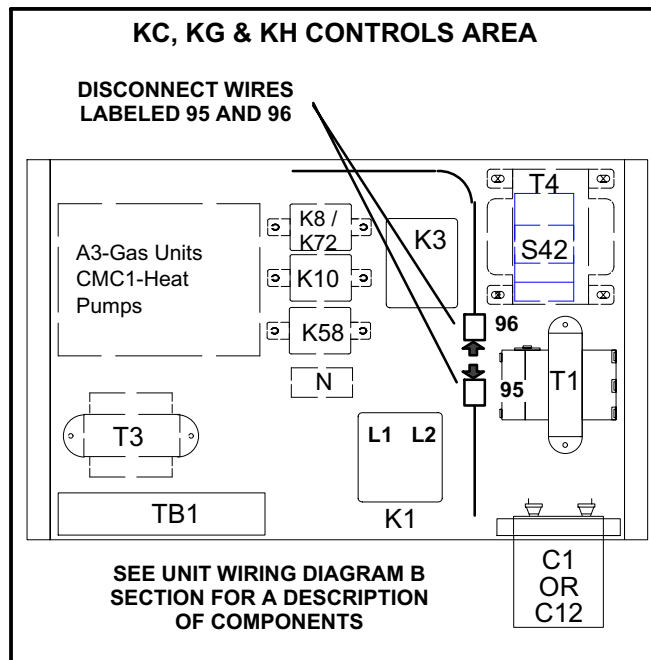

FIGURE 6
- 3 - Locate and disconnect wires labeled 95 and 96 in control area above compressor. See figure 6.